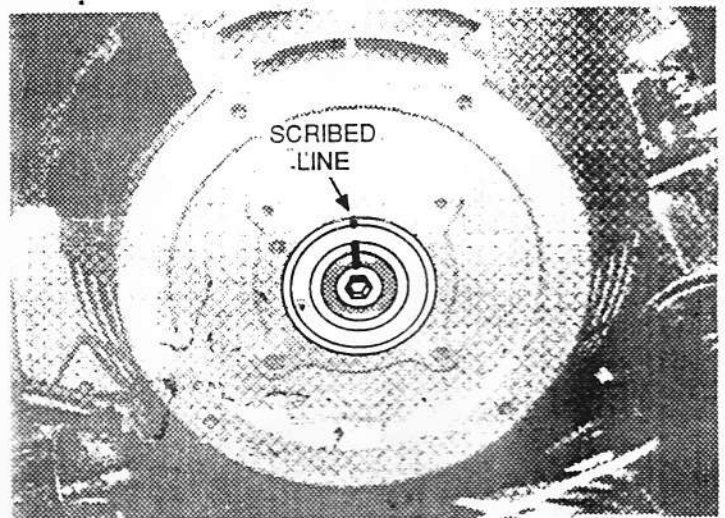

FIGURE 2. GENERATOR BEARING
9. Scribe a line from the generator bearing inner race to the outer race (see Figure 2). This mark is used to time the engine after the electronic ignition kit is installed.